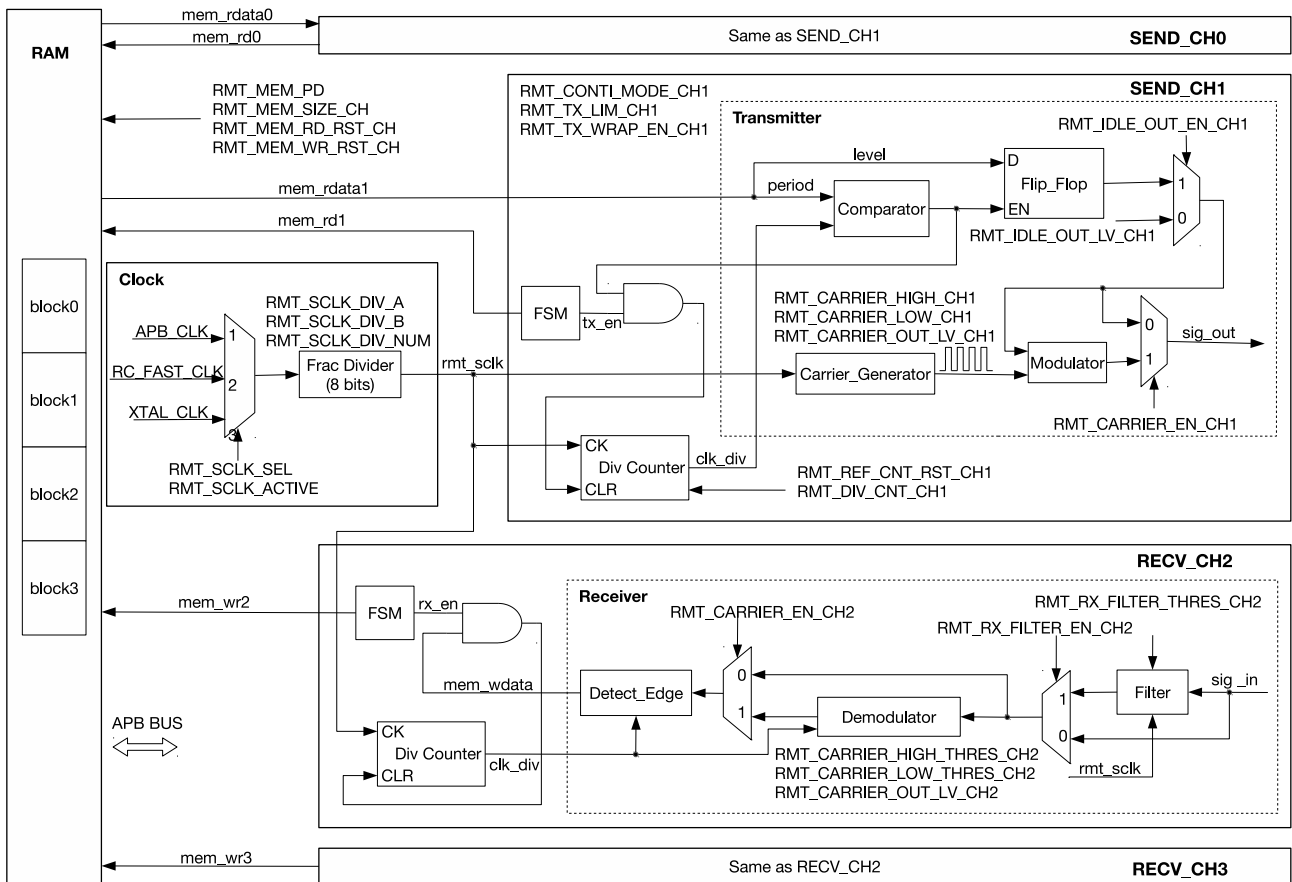

Figure 33.3-1. RMT Architecture
- Period: points out how many `clk_div` clock cycles the level lasts for, see Figure 33.3-1.
The clock source of RMT can be `APB_CLK`, `RC_FAST_CLK` or `XTAL_CLK`, depending on the configuration of `RMT_SCLK_SEL`. RMT clock can be enabled by setting `RMT_SCLK_ACTIVE`. RMT working clock (`rmt_sclk`) is obtained by dividing the selected clock source with a fractional divider, see Figure 33.3-1. The divider is:
RMT_DIV_CNT_CH n/m is used to configure the divider coefficient of internal clock divider for RMT channels. The coefficient is normally equal to the value of RMT_DIV_CNT_CH n/m , except value 0 that represents coefficient 256. The clock divider can be reset by clearing RMT_REF_CNT_RST_CH n/m . The clock generated from the divider can be used by the counter (see Figure 33.3-1).